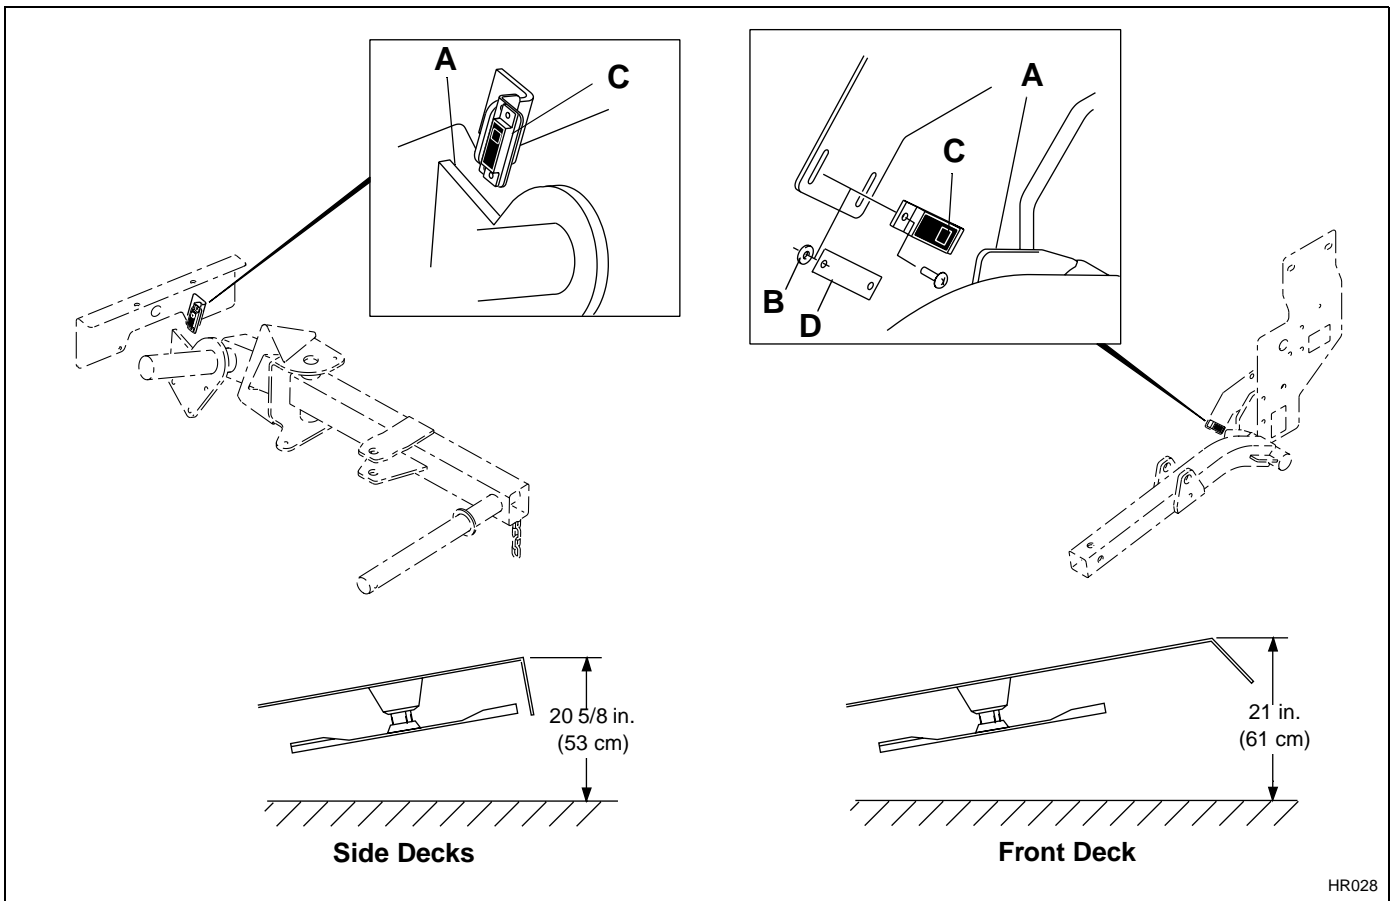

Figure 3K
2. Start tractor and raise or lower decks until the highest point on the top corner of the deck reaches the height shown in Figure 3K.
4. Position switch so sensing area (C) on switch is centered over leading edge (A) of activator plate on lift arm.
5. Adjust gap between sensing area on switch and activator plate on lift arm to 1/16"-1/8" (1.5 - 3 mm). To adjust gap for front lift arm use shims (D) or #10 flat washers (B) between switch and switch mount.